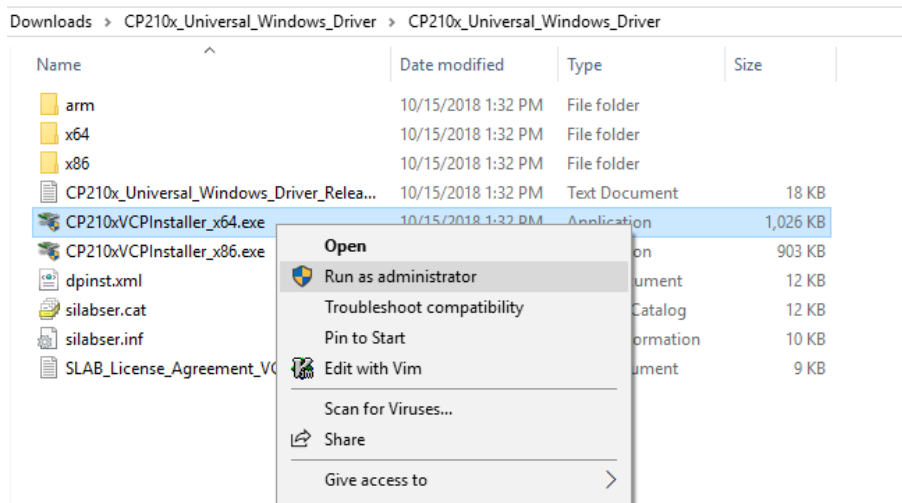

Figure 7.2 Install as the Administrator
3. Depending on your system right-click and run the 32-bit or 64-bit installer as administrator to begin installation, see Figure 7.2.